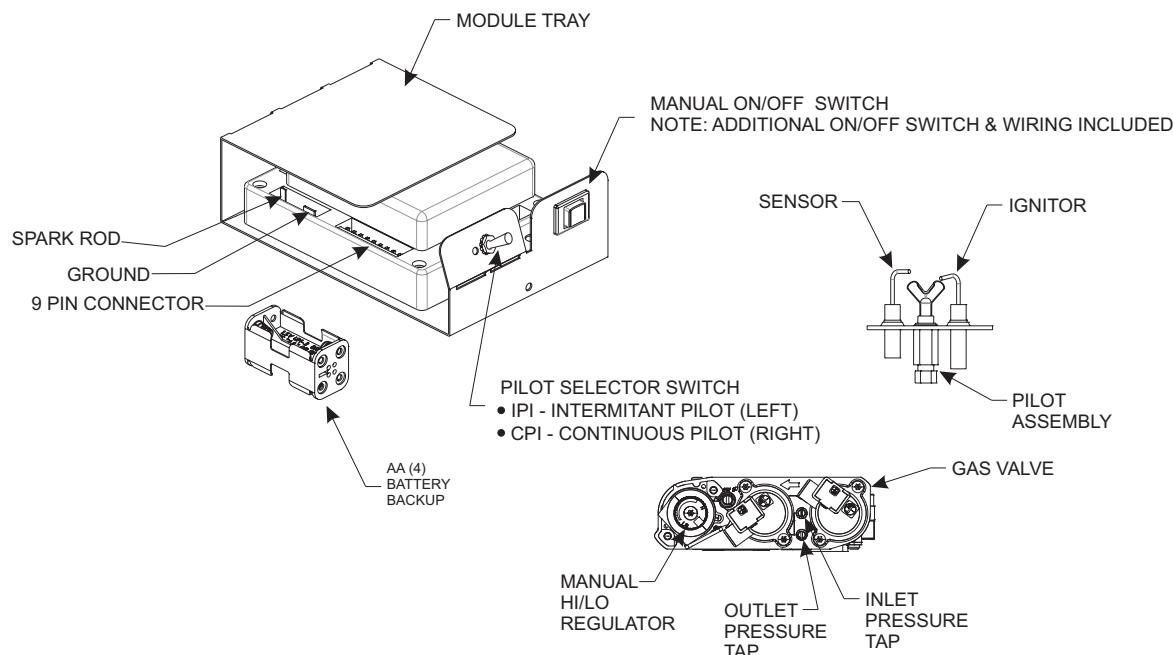

Figure 75
See Figure 75.
3. The gas valve has inlet and outlet pressure taps as shown in **Figure 75**. Refer to pages 8 and 17 for gas pressure requirements.
**NOTICE:** The gas control has a manual HI/LO flame adjustment knob (regulator) that allows you to increase or decrease the height of the burner flame. **See Figure 75.** Rotate the HI/LO knob counterclockwise to "HI" to increase the flame height, and clockwise to "LO" to decrease the flame height.
To connect the remote receiver to the appliance, first disconnect the ON/OFF switch wires from the white and green wire connectors and connect the wires from the remote receiver to the green and white wire connectors. **See Figure 75.**